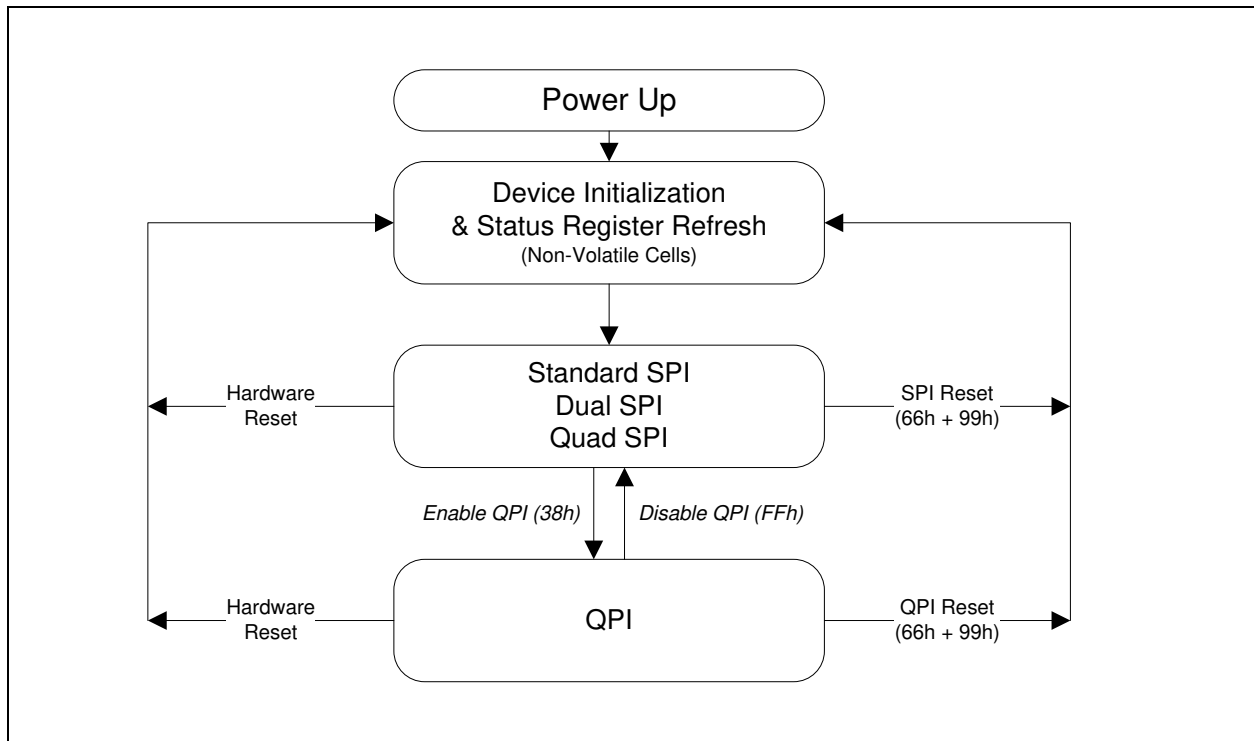

Figure 3. W25Q128JV Serial Flash Memory Operation Diagram
The W25Q128JV supports Quad Peripheral Interface (QPI) operations only when the device is switched from Standard/Dual/Quad SPI mode to QPI mode using the “Enter QPI (38h)” instruction. The typical SPI protocol requires that the byte-long instruction code being shifted into the device only via DI pin in eight serial clocks. The QPI mode utilizes all four IO pins to input the instruction code, thus only two serial clocks are required. This can significantly reduce the SPI instruction overhead and improve system performance in an XIP environment. Standard/Dual/Quad SPI mode and QPI mode are exclusive. Only one mode can be active at any given time. “Enter QPI (38h)” and “Exit QPI (FFh)” instructions are used to switch between these two modes. Upon power-up or after a software reset using “Reset (99h)” instruction, the default state of the device is Standard/Dual/Quad SPI mode. To enable QPI mode, the non-volatile Quad Enable bit (QE) in Status Register-2 is required to be set. When using QPI instructions, the DI and DO pins become bidirectional IO0 and IO1, and the /WP and /HOLD pins become IO2 and IO3 respectively. See Figure 3 for the device operation modes.